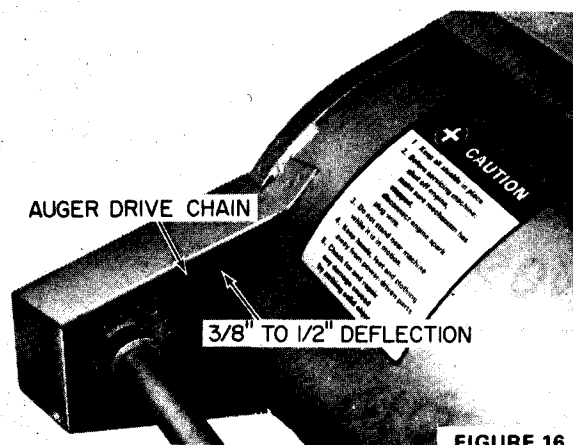

FIGURE 16
3. The auger drive chain should be adjusted until the chain deflects from $3/8''$ to $1/2''$ with finger pressure applied midway between the sprockets, Figure 16. Adjust drive chain as follows:
Once a month during season or every 25 operating hours, lubricate the auger drive chain, Figure 16, with heavy duty chain lubricant.